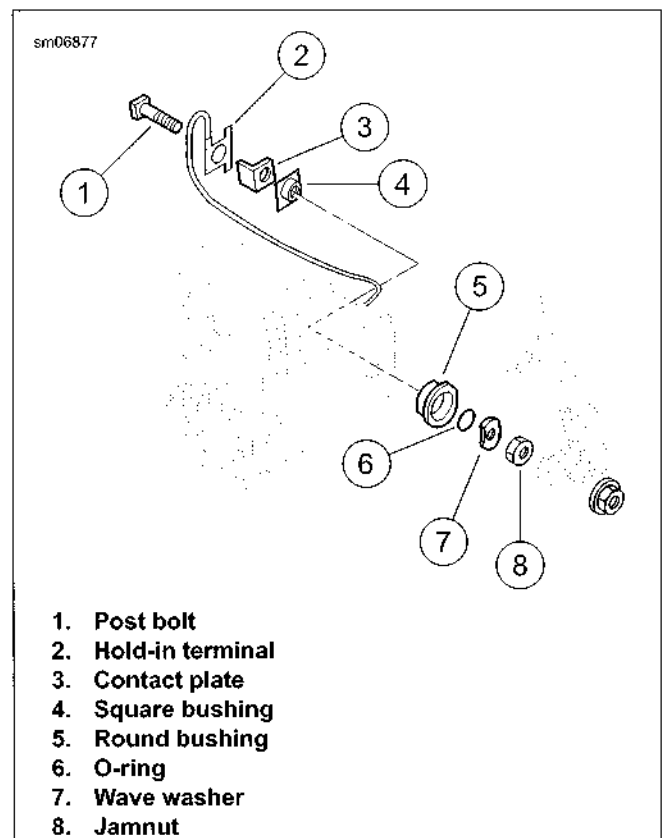

Figure 6-21. Short Post Contact (starter)
- b. See Figure 6-21. Remove jamnut (8), wave washer (7), O-ring (6) and round bushing (5).
- c. Remove the post bolt (1).
- d. Remove the hold-in terminal (2) from the post bolt.
- e. Remove the contact plate (3) and the square bushing (4).